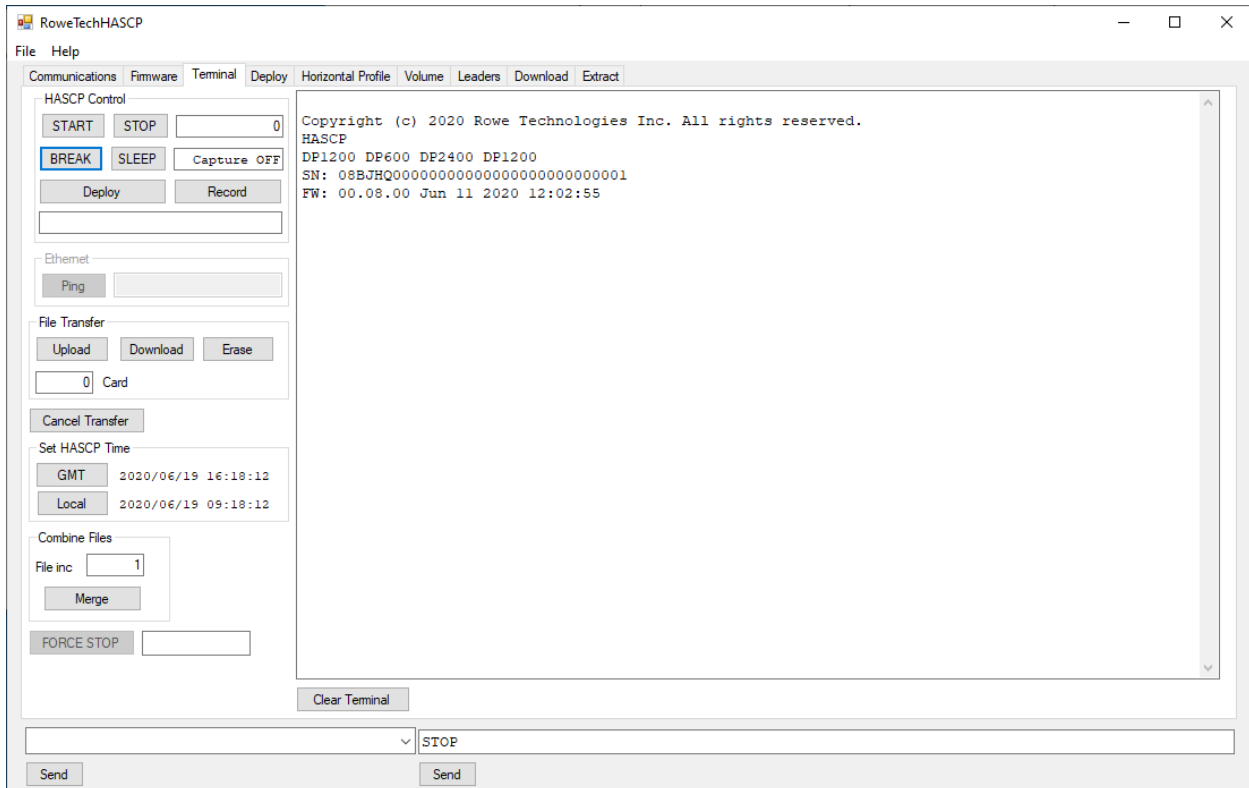

Figure 5. Connecting to HASCP – Terminal TAB showing BREAK message.
- a. Click the Terminal TAB near the top left of the software window. Refer to Figure 5.